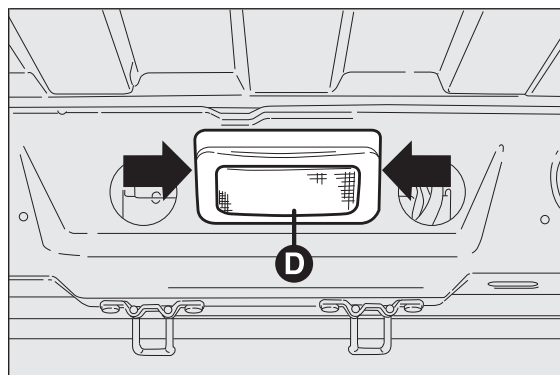
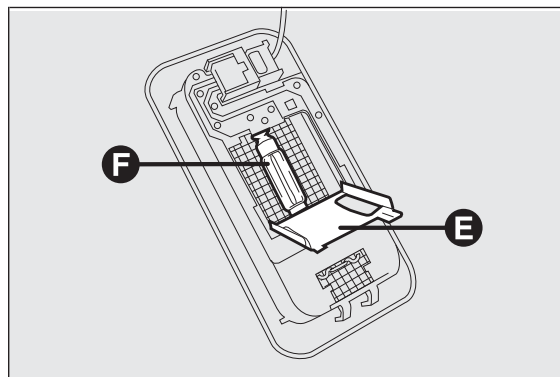

fig. 210
fig. 211
- ☐ operate in the points indicated by the arrows and remove roof light D fig. 210 ;
- ☐ open protective flap E fig. 211 ;
- ☐ replace bulb F fig. 211, releasing it from the side contacts and making sure that the new bulb is correctly locked between these contacts;
- ☐ close protective flap E fig. 211 and refit roof light D fig. 210 in its housing, making sure that it locks into place.